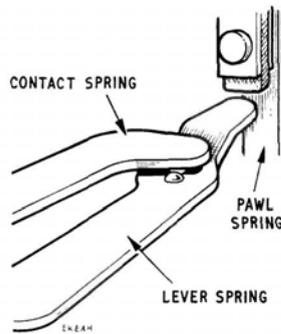

FIG. 22
**18. Interrupter-spring assembly** (see Fig. 22).—With the armature normal, there must be a clearance between the tip of the moving interrupter spring and the interrupter striker. The following conditions must be satisfied for correct adjustment:—